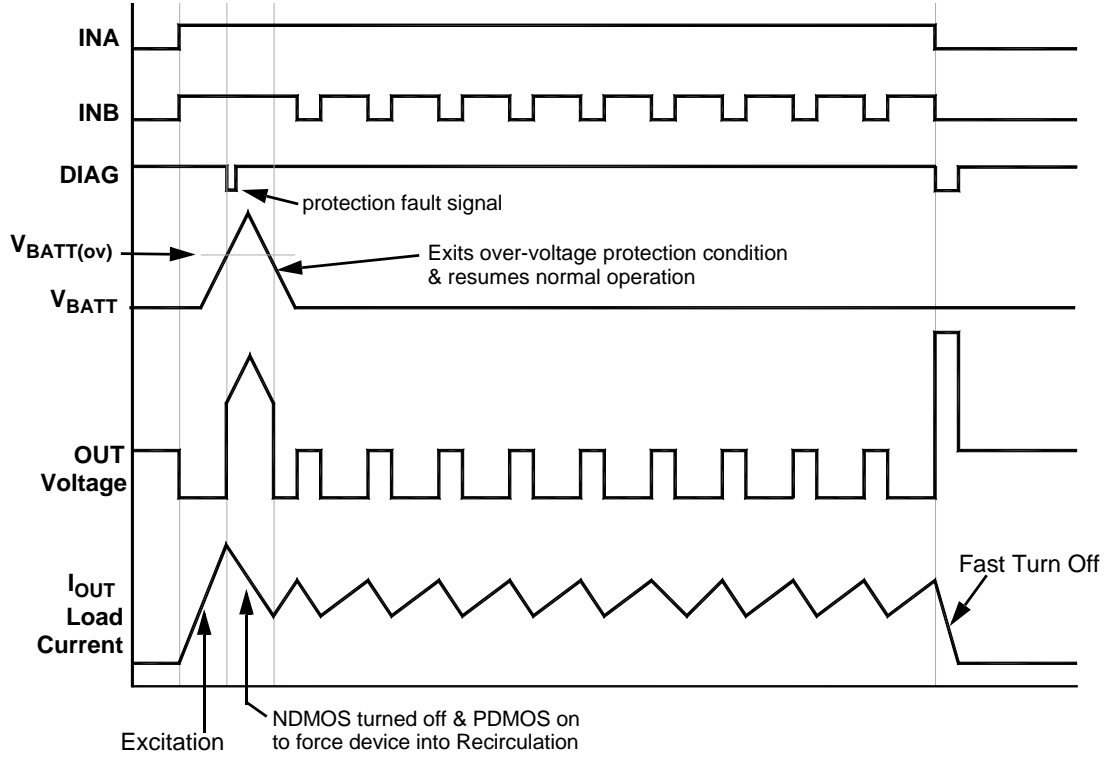

**Figure 2. Current Trip**
Refer to figures 2 through 6 for self-protection waveforms. All self-protection modes except over-voltage and under-voltage are reset when INA goes to logic 0. When a self-protection condition is detected the FDMS2380 will issue a protection fault on the diagnostic pin. This fault condition is signaled by a 2  $\mu$ s to 10  $\mu$ s pulse  $t_{DIAG(prot)}$  on the diagnostic pin DIAG. If the INA pin is activated while the condition setting the protection fault is still active additional protection fault diagnostic pulses will be issued.
**Current Trip** (see figure 2) Anytime during Excitation mode, if the current in the NDMOS rises above the  $I_{OUT(trip)}$  level, the FDMS2380 will turn off the NDMOS and enter into the Recirculation mode and issue a 2  $\mu$ s to 10  $\mu$ s protection fault pulse on the diagnostic pin DIAG. The device will remain in this Recirculation mode as long as the INA pin remains high and is terminated with the falling edge of INA.